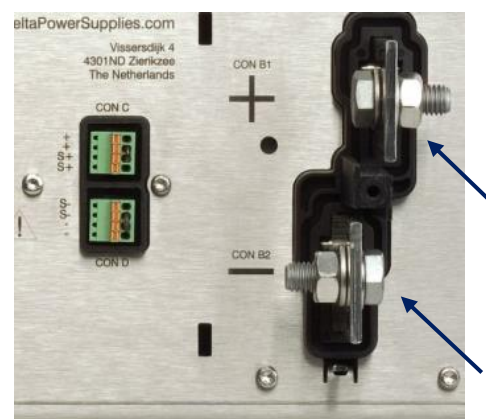

Figure 7.3: The two DC power terminals CON B1 and B2. CON C and D are the sensing connectors.
- These terminals are located at the rear side, marked as CON B1 (PLUS) and CON B2 (MINUS), see Figure 7.3.
- These connectors are located at the rear side, marked as CON C and CON D, see Figure 7.3.